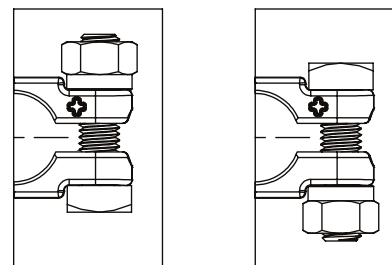

FIGURE 2
3. ATTACH THE BASE ASSEMBLY TO THE POSITIVE BATTERY POST OVER THE COVER. SECURE THE ASSEMBLY BY TIGHTENING THE M8 SHOULDER HEX NUT TO  $12 \pm 1 \text{ N}\cdot\text{m}$ . M8 NUT AND BOLT CAN BE ASSEMBLED IN LEFT OR RIGHT HAND ORIENTATION FOR BEST ACCESS DURING ASSEMBLY (FIGURE 2)